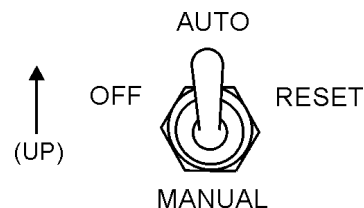

Figure 64. Off/Manual Auto Switch (AUTO)
2. Place the Off/Manual/Auto switch (Figure 64) in the **AUTO** position (up).